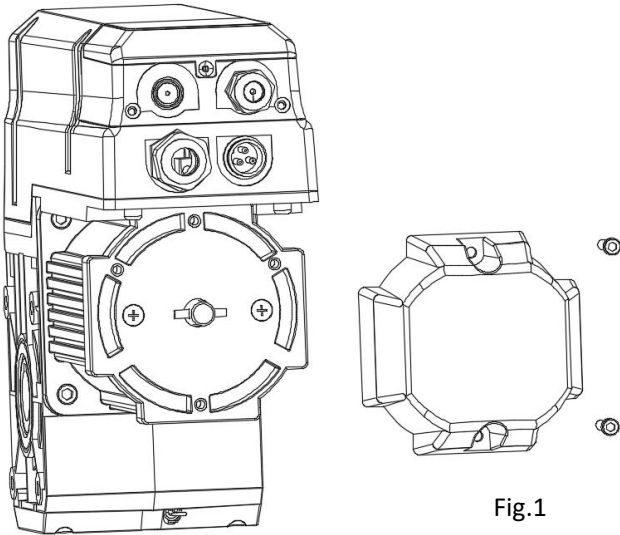

Fig.1
Step 1: Use a 4mm hex wrench to remove the two hex bolts on the rear motor cover and remove the rear motor cover to confirm whether there is a locating pin at the end of the motor shaft. (Fig.1)